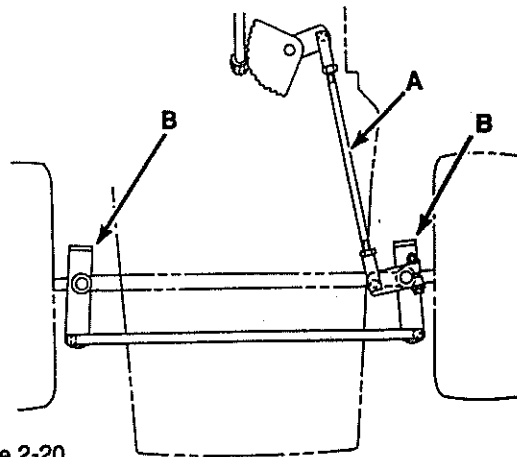

Figure 2-20
- Adjust tie rod (A Figure 2-20), so when at full left and right turn, spindle stop (B) of steering arm contacts front axle.